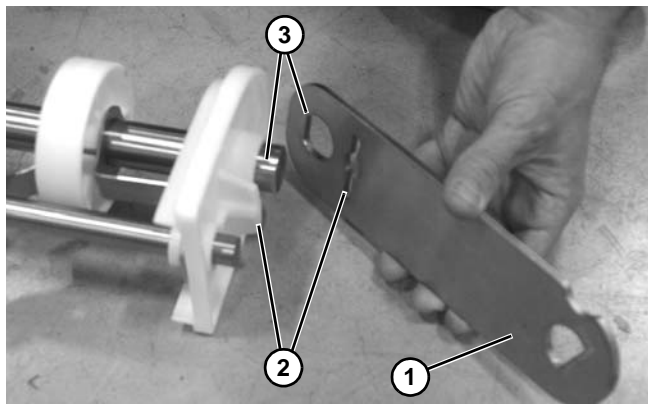

Figure 91
5. Remove tail plate (**Figure 91, item 1**) from assembly, making note of orientation of tab (**Figure 91, item 2**) and mating surfaces of puck rod (**Figure 91, item 4**) and tail plate.